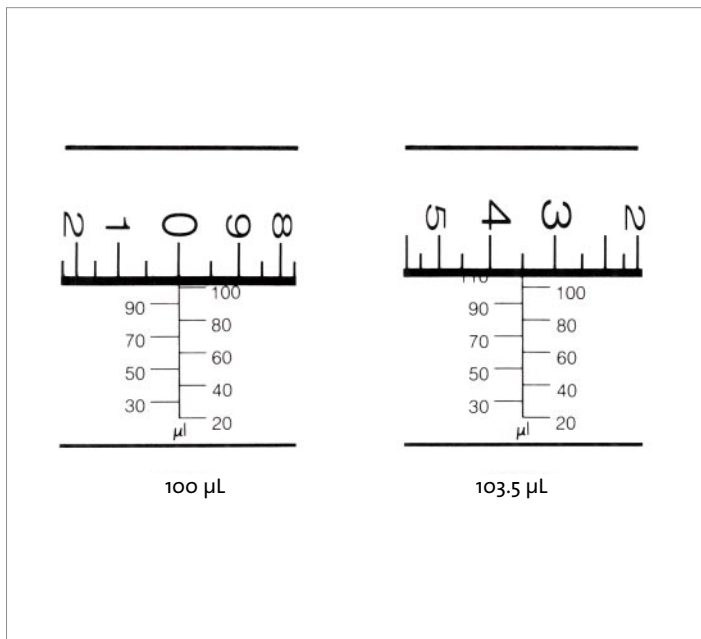

Figure 1. Head Settings
- Now rotate the head to the line halfway between 3 and 4. Volume is 100 plus 3 μL , or 103 μL , or 103.5 μL . The setting increments are very large on the micrometer head to allow easy reference to volume settings. (See Figure 1.)